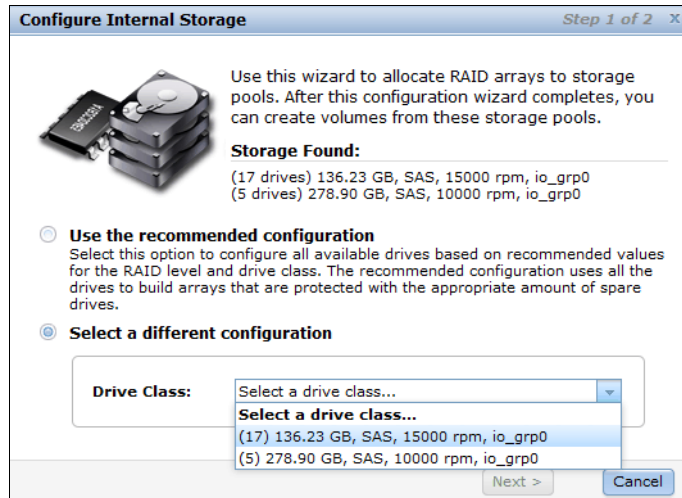

Figure 8-16 Select a drive class
1. Click **Select a different configuration** and choose the **Drive Class** you want to configure (Figure 8-16 on page 309).